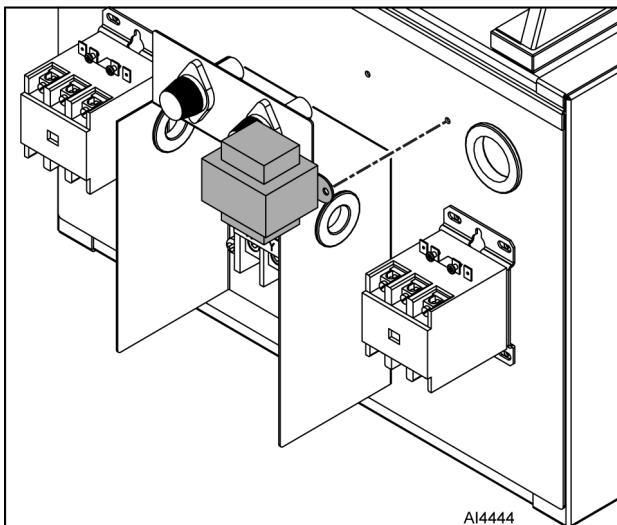

Fig. 24
2. Disconnect wires from transformer (Fig. 24).